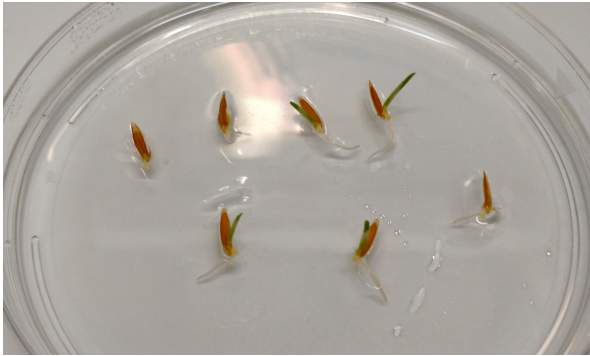

Figure 3-1. *Brachypodium* seeds have been germinated for two days and are ready for transferring to EcoFABs.
- 1. Retrieve the Brachy plates** from the growth chamber (Figure 3-1).